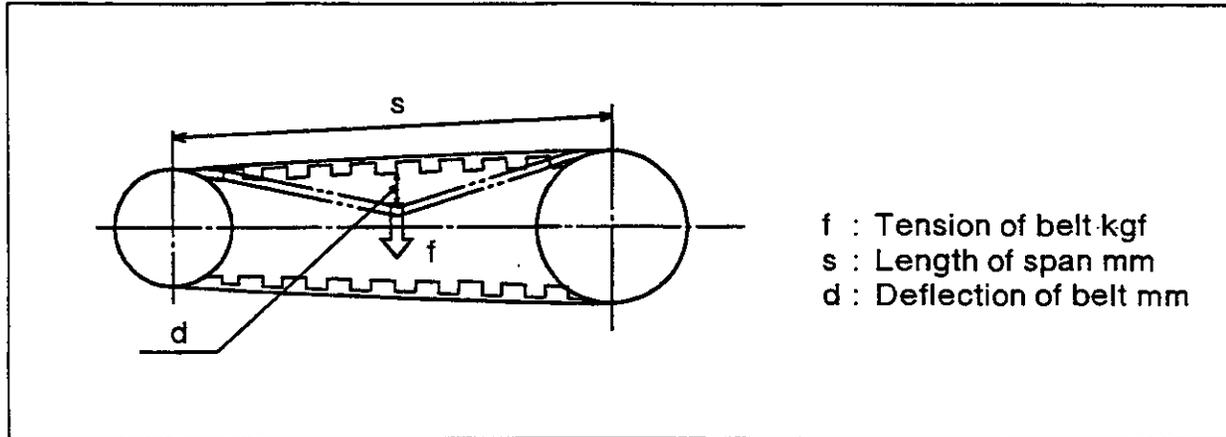

Fig. 5.5 Force and deflection
4. Push the middle of the belt with the finger lightly. (About 0.7Kgf) as shown in Fig. 5.5 and confirm that it sags 2mm.
A timing belt needs suitable tension to keep good power transmission and its durability. When the tension of the belt is weak, the sides of the belt vibrate. When the tension of the belt is strong, the tension side of the belt vibrates with a sharp sound. Fig. 5.5 and Table 5.5 illustrate the how to adjust the tension of the belt. Adjust the tension of the belt by the force f and the deflection of the span, s .